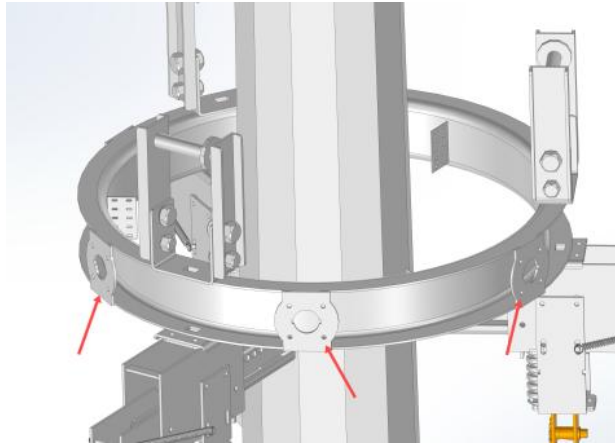

Figure 14
1. After completing the preceding steps, install the cameras or luminaires. Figure 14 shows the six mounting flanges; select the positions required for the equipment orientation.